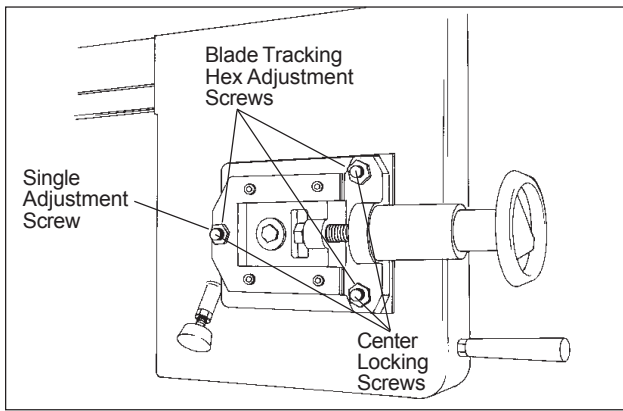

Figure 10: Blade tracking and tensioning
Blade tracking has been tested at the factory. Adjustment is rarely required when the blade is used properly or if the blade is correctly welded. (See figure 10 for location of blade tracking adjustment
5. Loosen the center locking screws in all three hex adjustment screws on the blade tensioning mechanism (see figure 10).